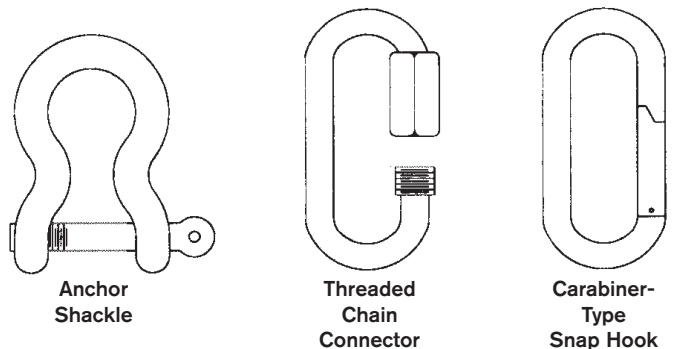

Figure 6: Examples of Useful Suspension Hardware
4. Use certified hardware rated for overhead lifting to suspend the speaker (See Figure 6).